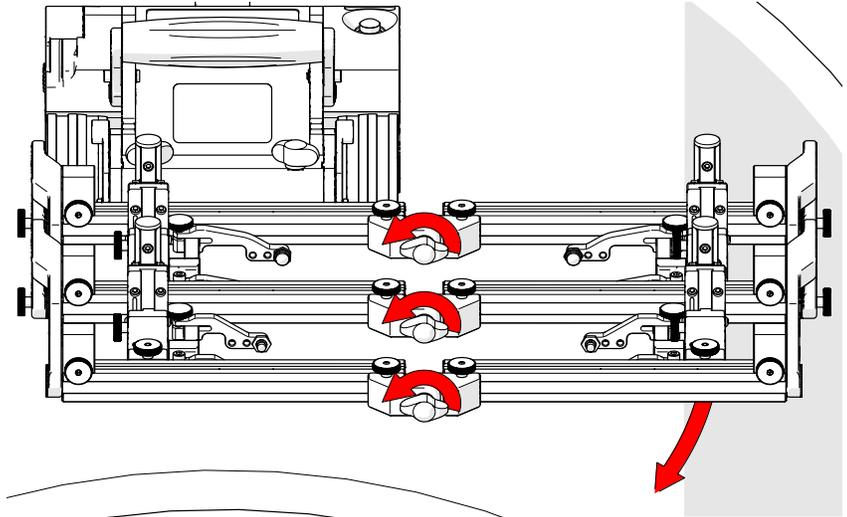

Fig. 186 - Loosen pivot wing knobs
1. Loosen the pivot wing knobs at the centre of the frame system (Fig. 186). Lower the left side of the frame system to align with the tangent of the scan surface. Tighten the pivot wing knobs.